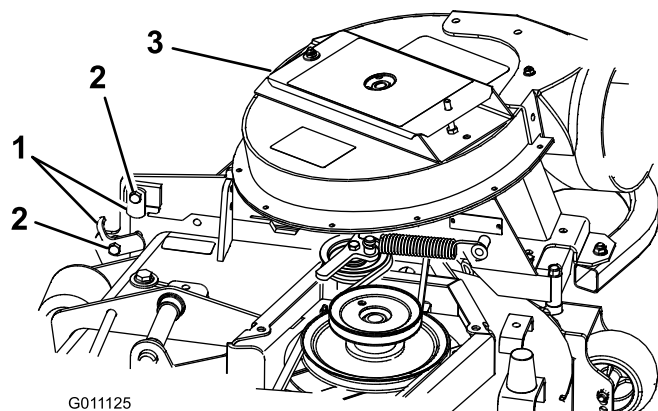

Figure 17
3. Close the blower assembly to see if the latches are adjusted correctly. Loosen or tighten the bolt so the latches firmly hold the blower assembly against the mower deck, but can be released by hand (Figure 17).